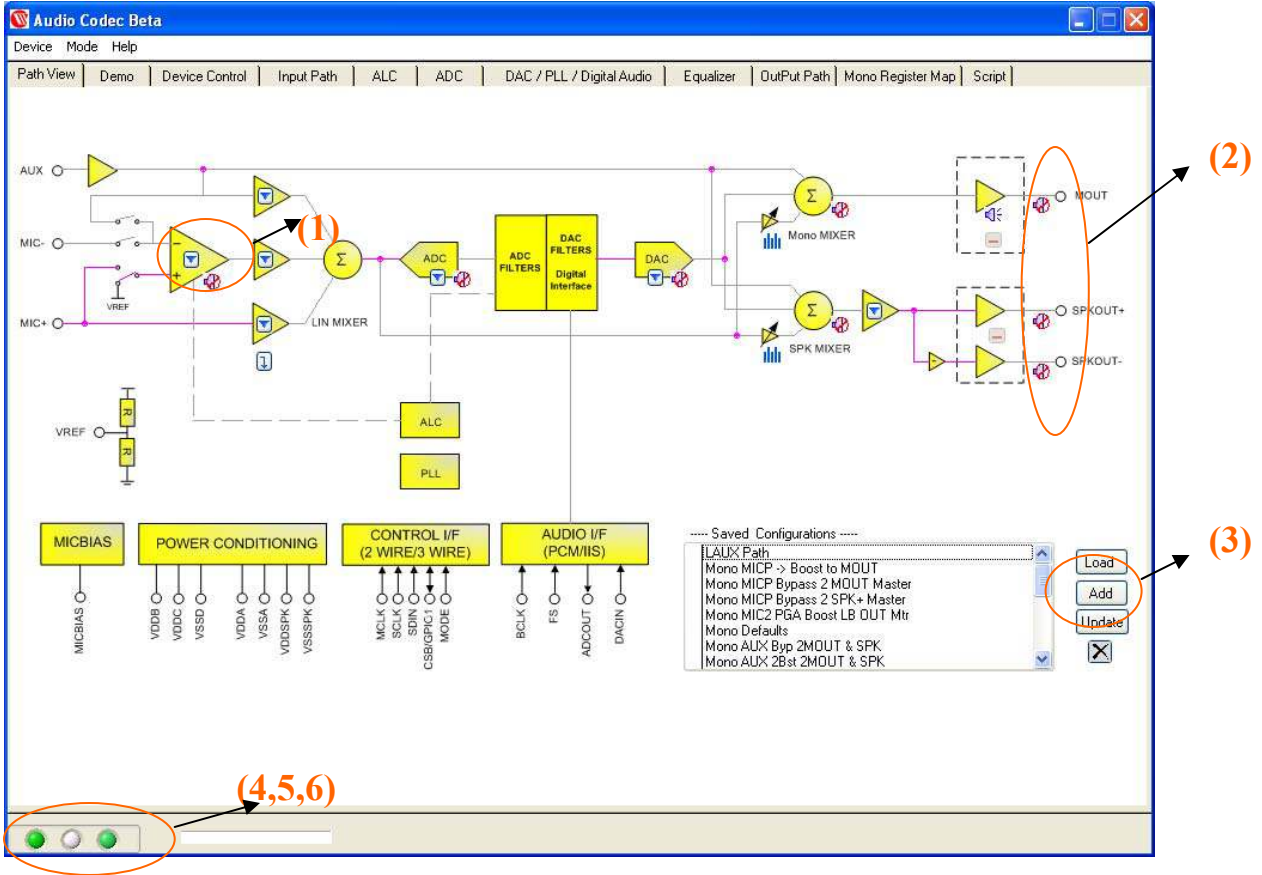

Fig2:
From the start up screen select WAU8812 to go to Mono GUI. The first screen you will see is a graphical representation of all relevant blocks of the WAU8812 Audio Codec called path view. Each block has its own screen panel witch represents associated control registers for that block. In this panel you can select various gains setting from the ring popup menus (1) or use Icons to mute and un-mute (2) (See Fig2).